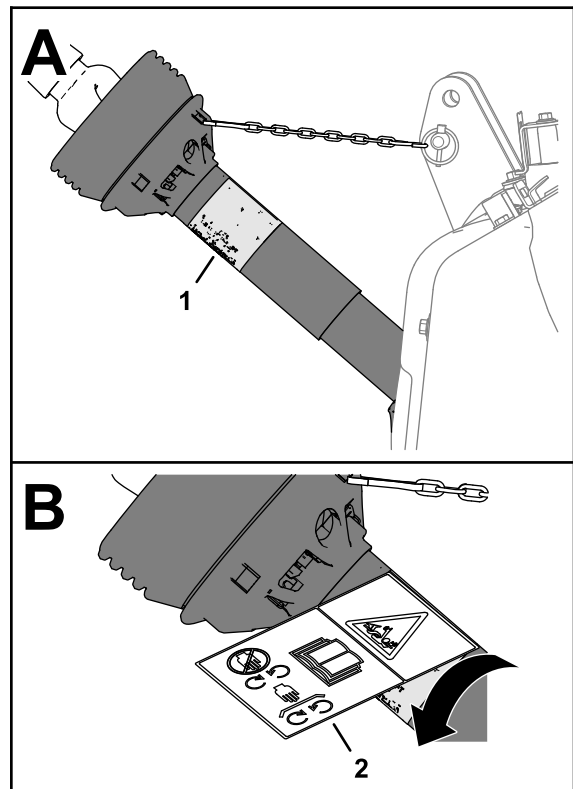

Figure 19
1. Rotate the shaft guard to access the existing entanglement decal (Figure 19).
- Place the CE entanglement decal over the existing entanglement decal (Figure 19).